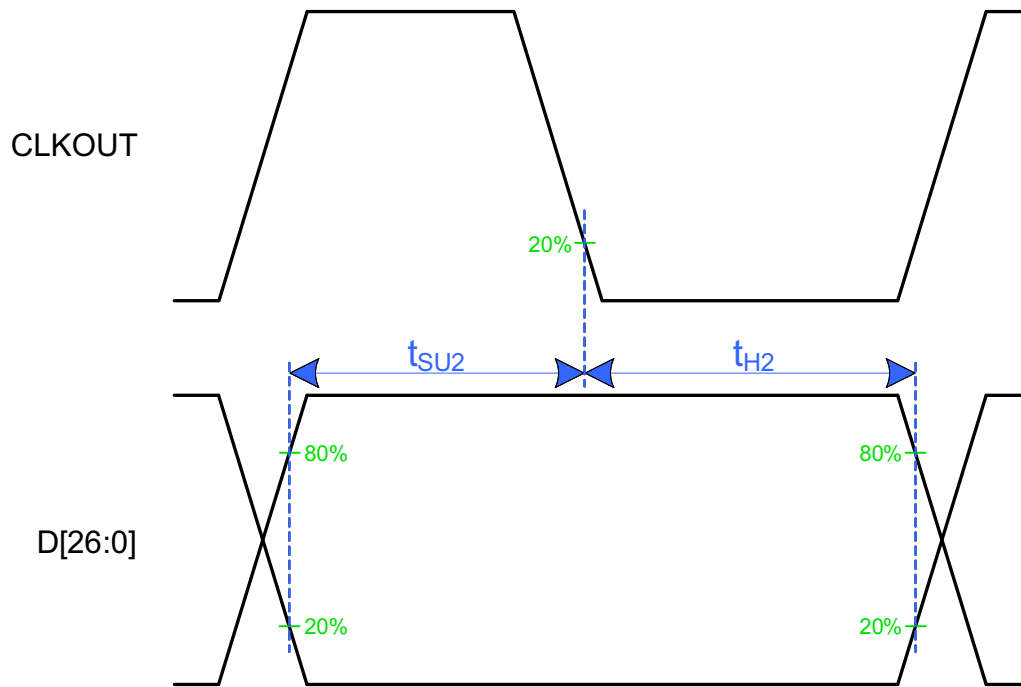
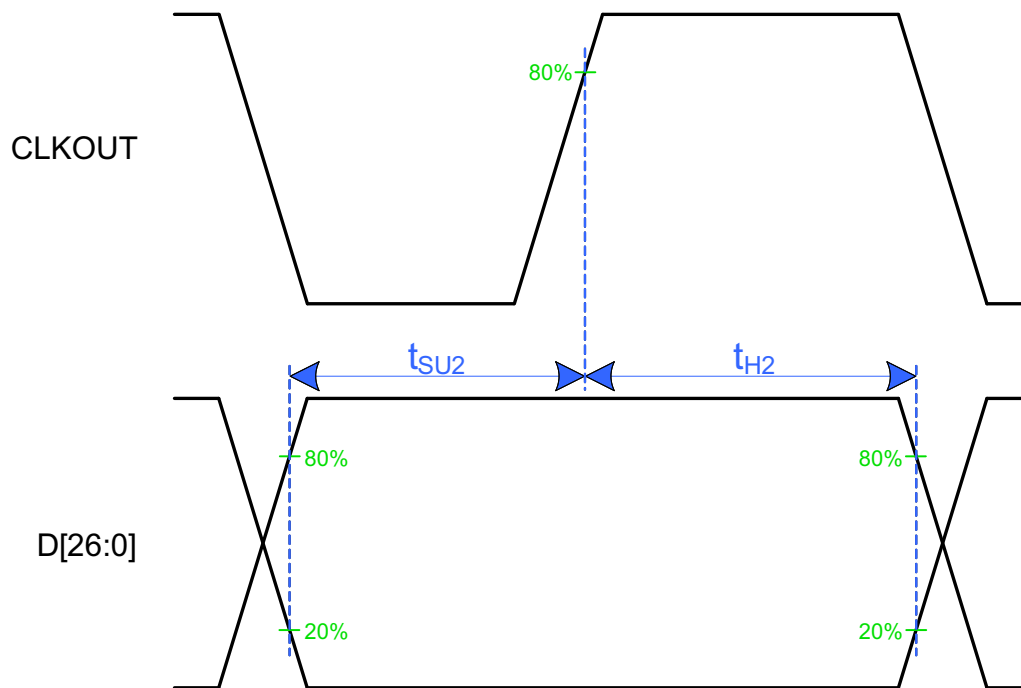

图 3. CMOS Output Timing (CLKPOL = Low)
图 4. CMOS Output Timing (CLKPOL = High)
- (1) The PLL bandwidth describes the typical highest modulation frequency that can be tracked. If the LVDS transmitter device generates a spread spectrum, the LVDS clock and data must stay synchronized throughout modulation. The SN65LVDS822 will track and pass through modulation, and the downstream CMOS receiver must be able to track it.
- (2) Receiver Input Skew Margin (t_{RSKM}) is the timing margin available for transmitter output pulse position (t_{PPOS}), interconnect skew, and interconnect inter-symbol interference. t_{RSKM} represents the remainder of the serial bit time not taken up by the receiver strobe uncertainty. The t_{RSKM} assumes a bit error rate better than 10^{-12} .
- (3) t_{RSKM} is indirectly proportional to: internal setup and hold time uncertainty, ISI, duty cycle distortion from the front end receiver, skew mismatch between LVDS clock and data, and PLL cycle-to-cycle jitter.
- (4) LVDS input timing defined here is based on a simulated statistical analysis across process, voltage, and temperature ranges.
- (5) See Figure 3 and Figure 4.